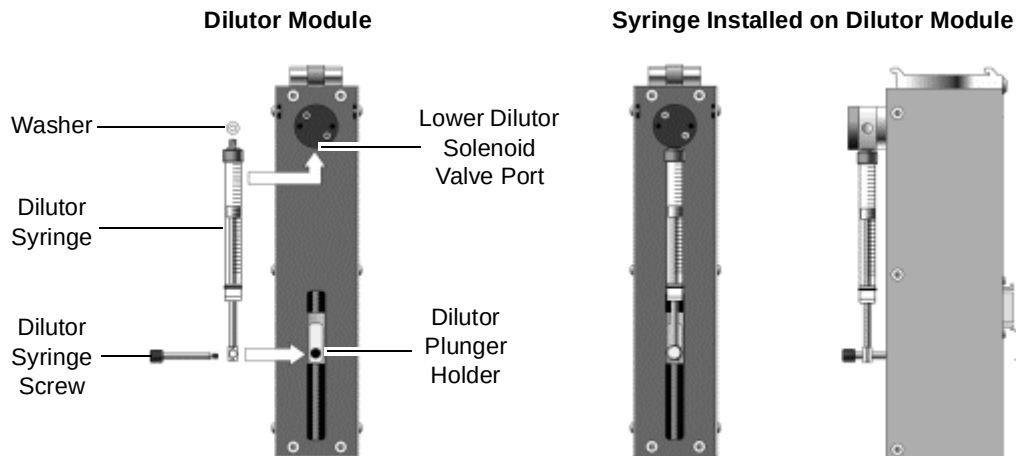

Figure 2-26 Installing the Dilutor Syringe on the Dilutor Module
2. Carefully screw the dilutor syringe into the lower solenoid valve port and tighten it firmly (Figure 2-26).